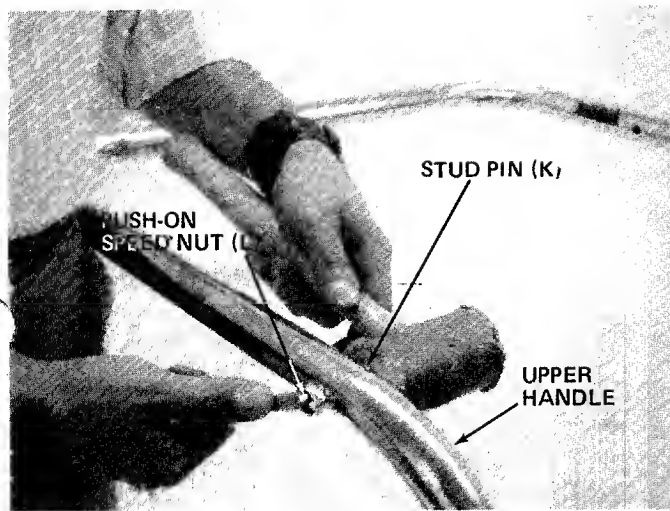

FIGURE 5.
3. Place the stud pins (K) in holes in upper handle (head of pins go to the inside of handle). Secure pins with push-on speed nuts (L) by holding speed nut with box wrench and tapping pin with hammer. See figure 5.